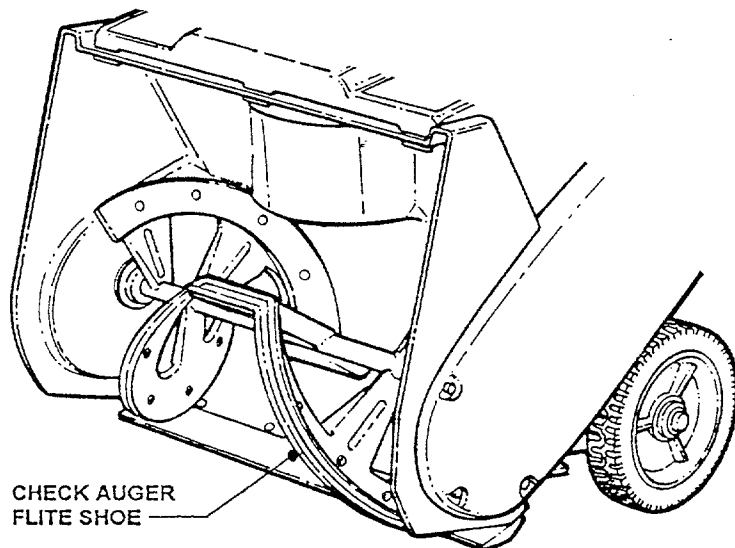

FIGURE 3.2
1. Visually check flite shoes for cracking, fraying, severed or belt strands exposed. Replace flite shoes before operating snow thrower. See Figure 3.2.